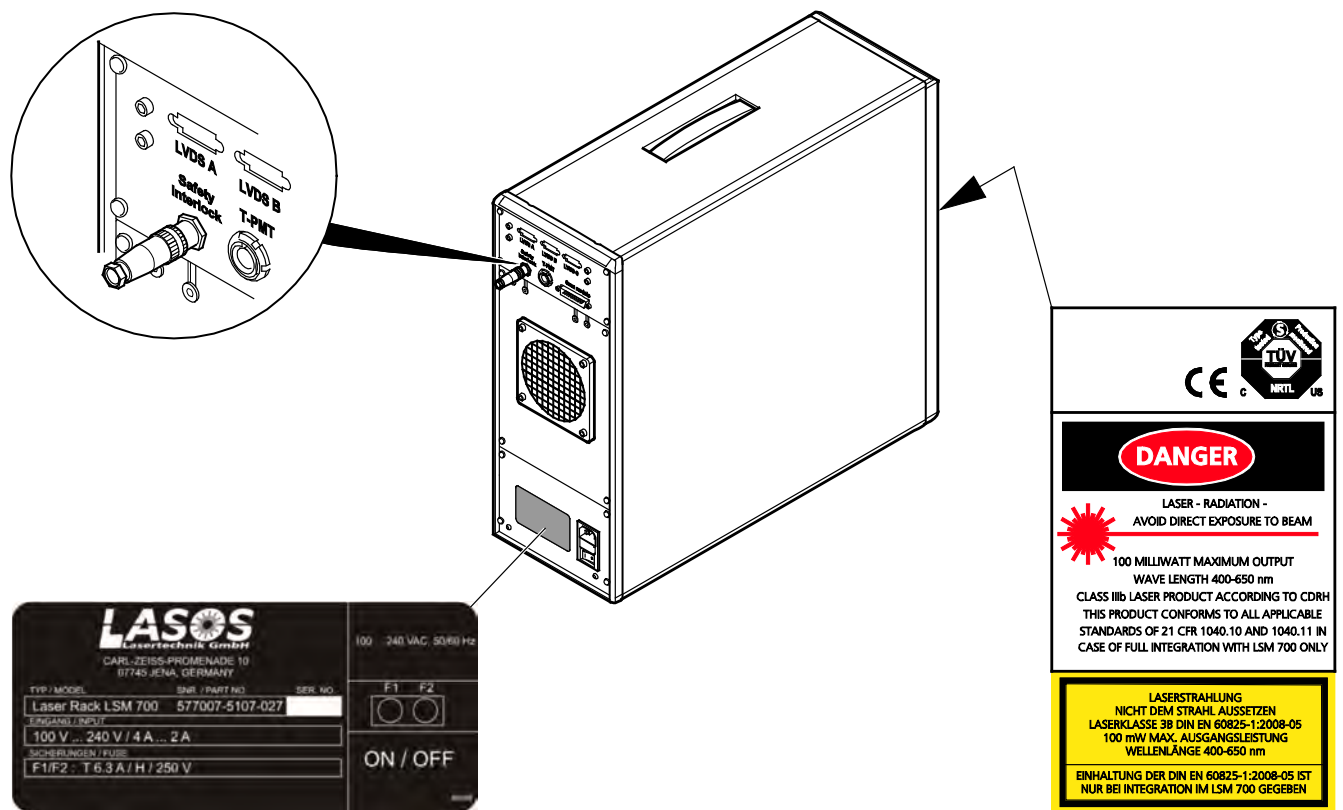

Fig. 15 Warning and information labels on laser rack
- The laser rack is equipped with an electric interlock at the back of the rack (see Fig. 15). This can be used to connect a remote interlock.